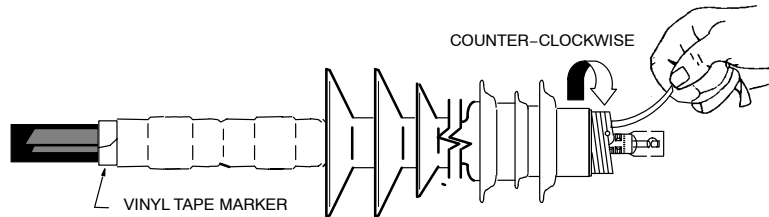

FIGURE 6A
9. Position the terminator body on the cable. The base of the terminator body (not the core) must be butted up to the edge of the vinyl marker tape. Remove the core while unwinding in a counter-clockwise direction. Once the terminator body has made contact over the mastic seal area, there is no need to continue supporting the assembly. **DO NOT** push or pull the terminator while unwinding the core. See Figure 6A.